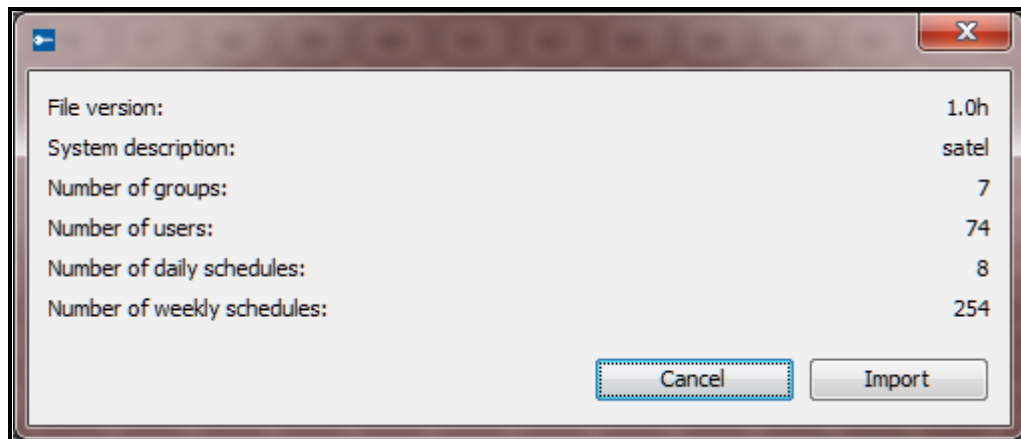

Fig. 38. Window with information on data imported from the ACCO-SOFT-LT program.
8. Window with information on imported data will open (see: Fig. 38). Click on the “Import” button to start the data import procedure. After completion of the procedure, a message will be displayed to inform you about it.
Continue – click to confirm the entered data. A window with information on the data imported from the ACCO-SOFT-LT program will open (see: Fig. 38).